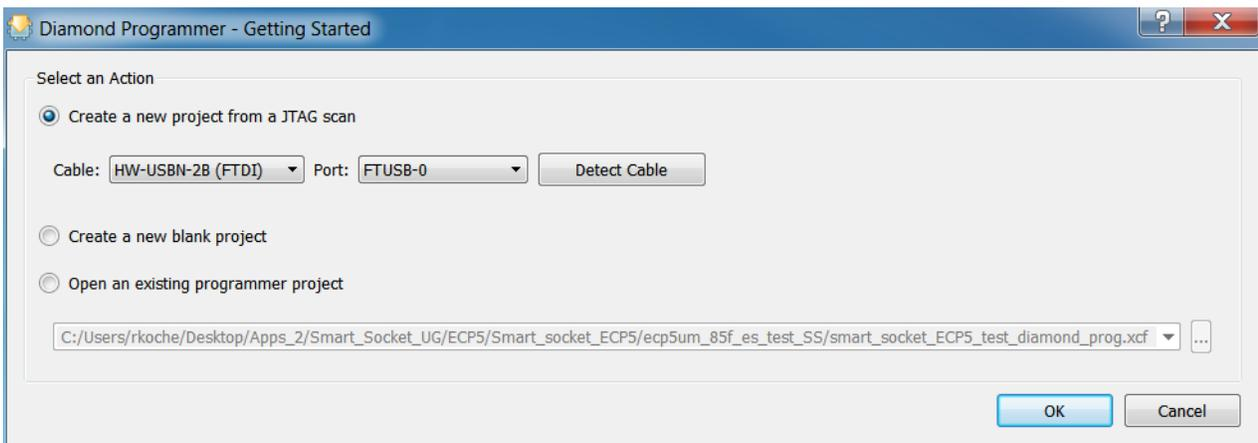

Figure 5.1. Getting Started
1. Launch the Lattice Diamond Programmer software. The Diamond Programmer starting page appears as shown in Figure 5.1.